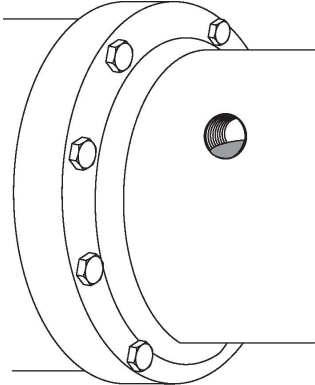

Figure 13
- Once the oil fill hole is at approximately 60°, the oil should be sitting at the case of the oil fill hole. See Figure 13.